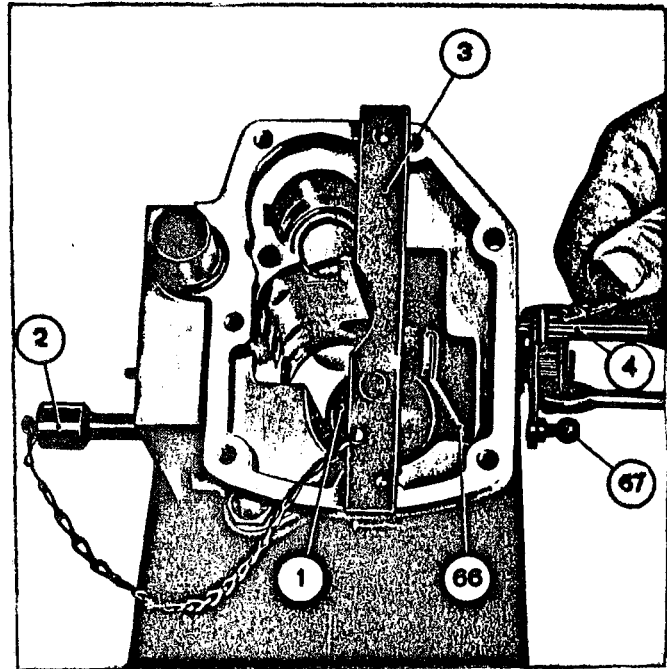

Fig. 30 - Using Fixture 8013353
- To position and then secure the pump control lever(67) onto the cam control lever pin, it is necessary to use fixture 8013353 by proceeding as follows (see figure 30):
- fit fixture 8013353 into the pump housing, so that: the shaft cylindrical head seats in the housing of the governor shaft end bearing(37), the ball pin of the cam control lever (66)
- is inserted into the first groove of the dummy cam (1), the holes in the plate (3) engage with the dowels of the pump housing;
- fit the pin (2) into the hole of the cam follower pin, until it is inserted into the second groove of the dummy cam(1), locking it;
- fit the pump control lever (67) to the cam control lever(66) pin;
- insert pin 8013352 (4), through the hole in the lever (67), into the proper slot machined in the pump housing;
- after positioning the lever (67) as previously described, lock it by screwing in the bolt (106), provided with the washers(83), until the spigot between the hexagon head and the cylindrical one breaks; obviously, during such operation, it will be necessary to hold the nut (41) with another spanner;
- remove fixture 8013352 and the pin (4 - fig. 30);
- make sure that the ground surfaces of lobes of the camshaft (3) are not excessively worn out or scored and do not present signs